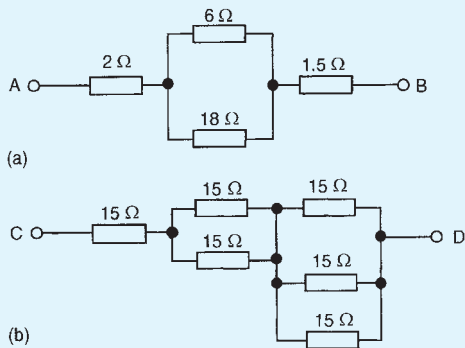

Figure 5.30
4. Find the total resistance between terminals A and B of the circuit shown in Fig. 5.30(a). [8 Ω]
5. Find the equivalent resistance between terminals C and D of the circuit shown in Fig. 5.30(b). [27.5 Ω]